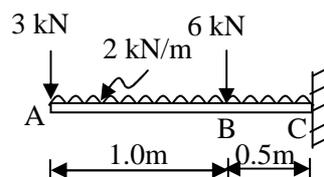

Fig. 7 Que 3(b) OR
- (b) A cantilever beam is loaded as shown in **fig. 7** Calculate shear force and bending moments at salient points and plot shear force and bending moment diagrams. **05**